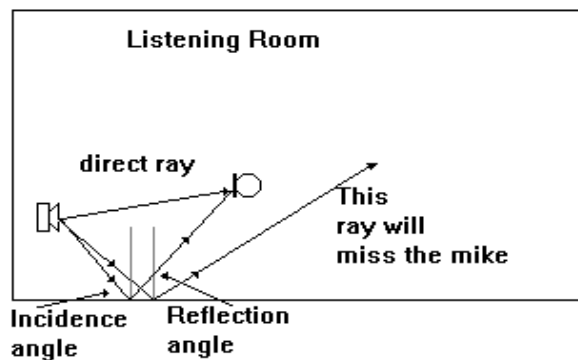
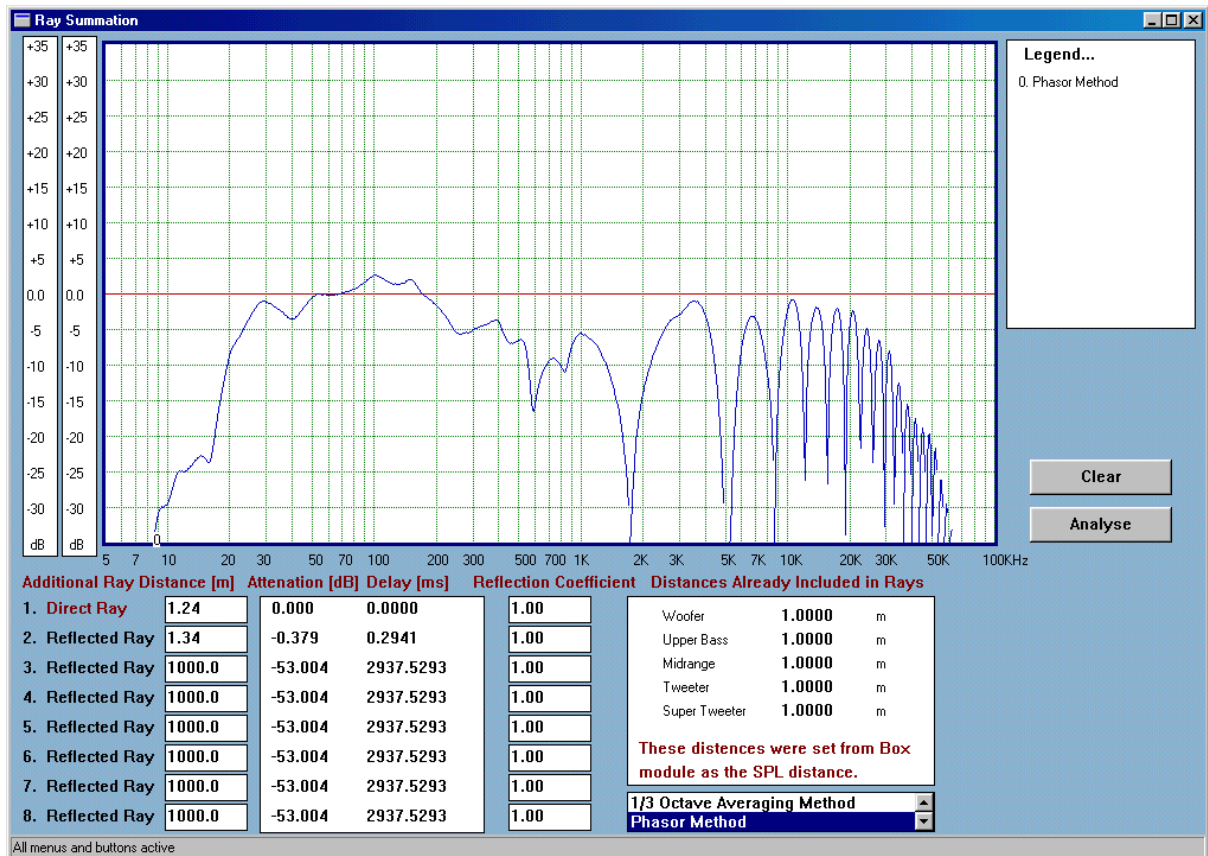

Figure 14.8 Incident and reflection angles.
Fig 14.9 Two rays added – path difference 10cm
From the theoretical point of view, below 300 Hz, the average listening room must be considered as a resonant cavity. In this frequency range, reflections result in standing waves and the room becomes a resonating chamber. Above 300Hz the Ray-Tracing Model becomes more useful. Here, we assume that the ray’s incident angle is the same as the reflection angle. In the home situation, the shape and size of the listening room are already fixed. For the purpose of reviewing the issues associated with room acoustics in mid-frequency range, we would like to start with a simple case depicted in Fig 14.8. Let’s assume that there are only two audio paths arriving at the test microphone.
If the reflecting surface is hard, there is no phase change between incident and reflected rays. Please note that the two angles are equal, so not every ray will reach the microphone. Figure 14.8 depicts the case, where two rays are combining at the microphone: (1) direct ray and (2) single ray reflected from the floor. The difference in length between these two paths is 10 cm. The 10 cm distance happens to be half of the wavelength (180 deg shift) of 1700Hz sinewave. If we add two sinewaves of the same frequency and shifted 180 deg, the result should be total cancellation. Indeed, this is clearly depicted in Fig 14.9. The first null occurs at 1700Hz followed by a +6dB peak at 3400Hz. At 3.4kHz the 10cm distance is equivalent to 360 deg phase shift, so both waves combine constructively. Next, another null occurs at 5100Hz, as the phase shift over 10cm distance equals 360+180 deg (phase reversal) and so on.